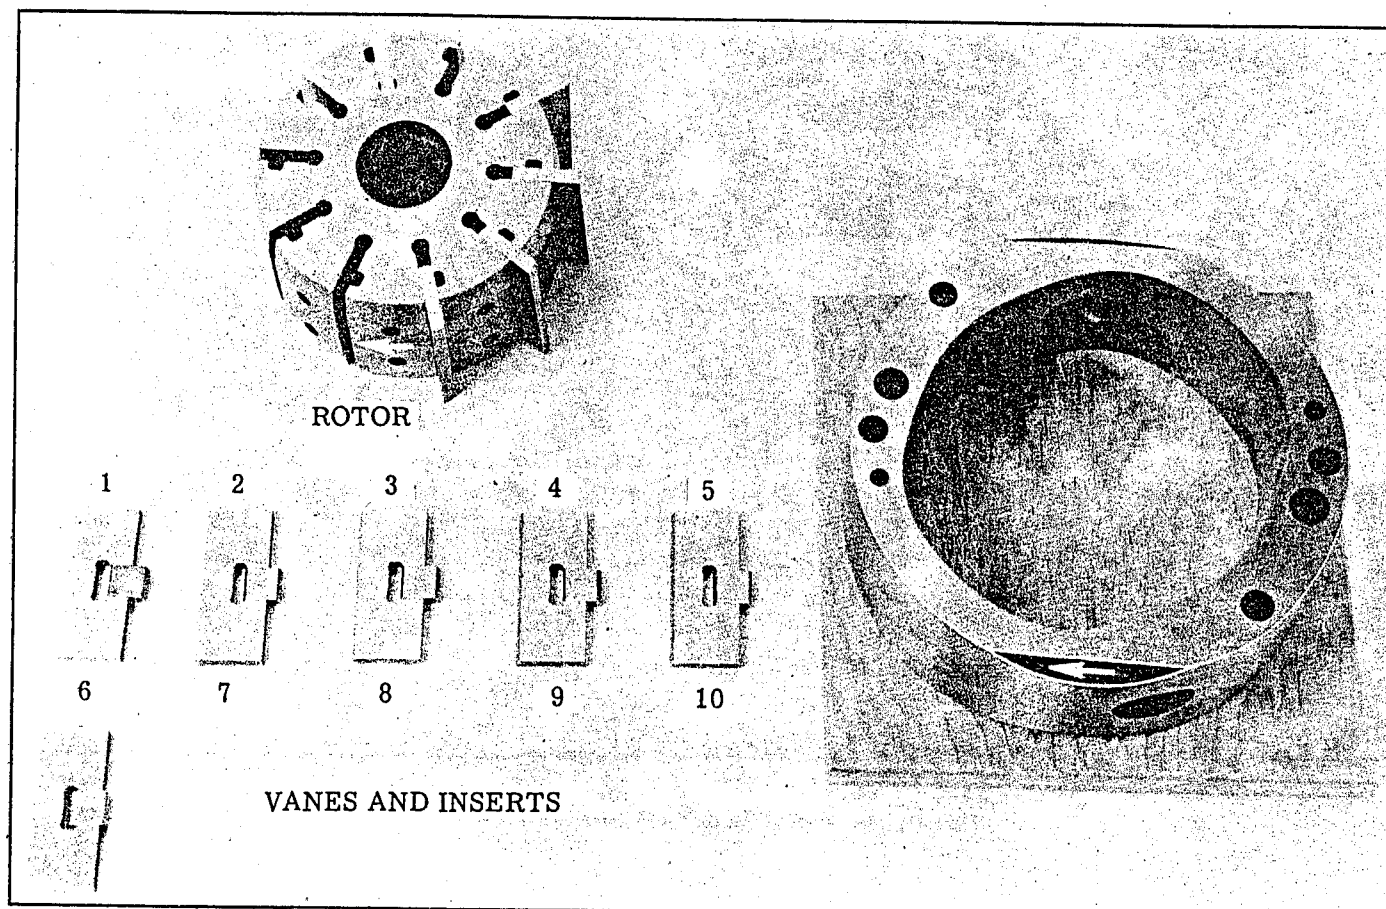
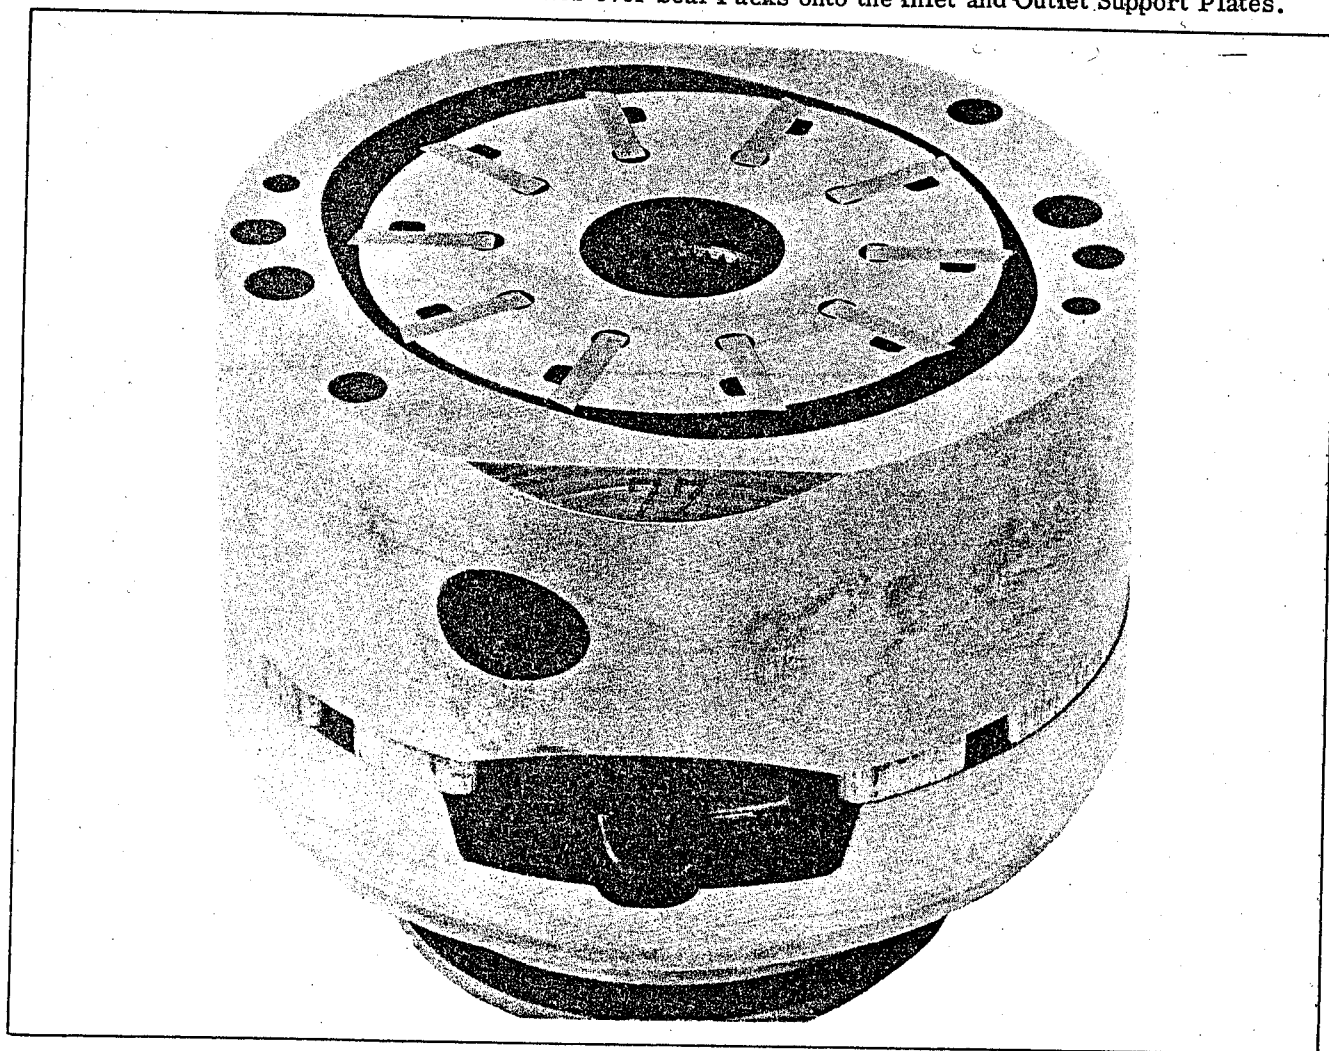

Figure 20. Sequential Removal of Vanes from Rotor. Starting at Arrow on Rotor.
Figure 22. Outlet Support Plate and Flex Side Plate Assembled to Cartridge. Ready for Installation of Inlet Support Plate and Flex Side Plate.
- c. For right hand rotation units, set the rotor on a flat wooden board with the arrow pointing right. (For left hand rotation, the arrow should point left). Assemble the vanes and inserts into the rotor in reverse order. See Figure 20. Make sure the sharp chamfer edge of each vane leads in the direction of rotation. All vanes must move freely in the rotor slots with no evidence of bind.
- d. Assemble the ring (27) over rotor (28) and vanes (29) with arrow pointing in the same direction as the rotor. Lubricate the top surface of the rotor and vanes liberally with system fluid.
- e. Locate the scribe mark on ring (27), outlet support plate (24), and flex side plate (26). Hold the outlet support plate and flex side plate together and assemble over the ring and rotor with the scribe marks in-line.
- f. Hold the cartridge together to prevent movement and turn the assembly over so the outlet support plate rests on a flat surface, and the wooden board is up. See Figure 22. Remove the wooden board.